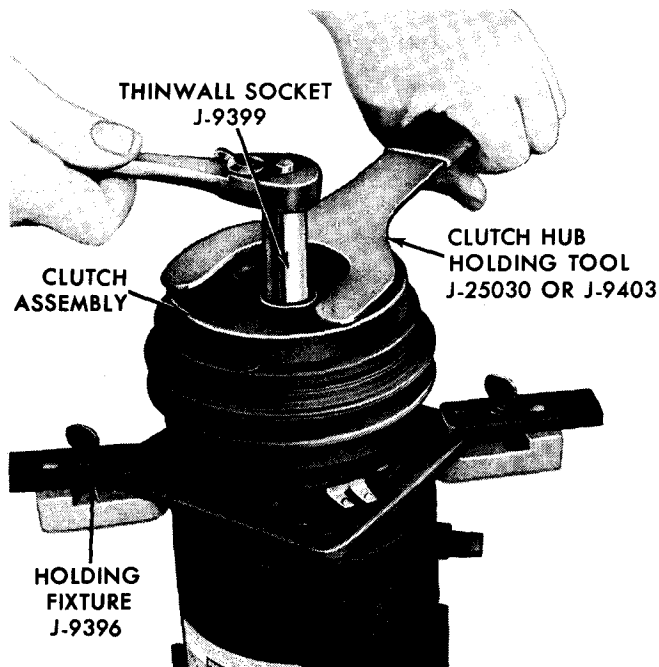

Figure 70—Removing Shaft Locknut
2. Keep clutch hub from turning with Clutch Hub Holder J-25030 or J-9403, and remove lock nut from end of shaft using Thin Wall Socket J-9399 (figure 70).